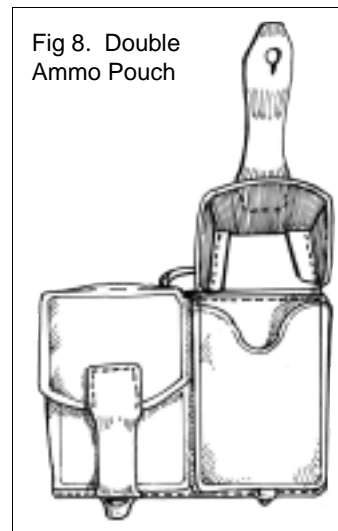

Fig 8. Double Ammo Pouch
4. **Cartridge Pouch:** A leather double ammo pouch that will conveniently hold a box of ammo in each side and can easily be carried right on your belt. Fig 8.